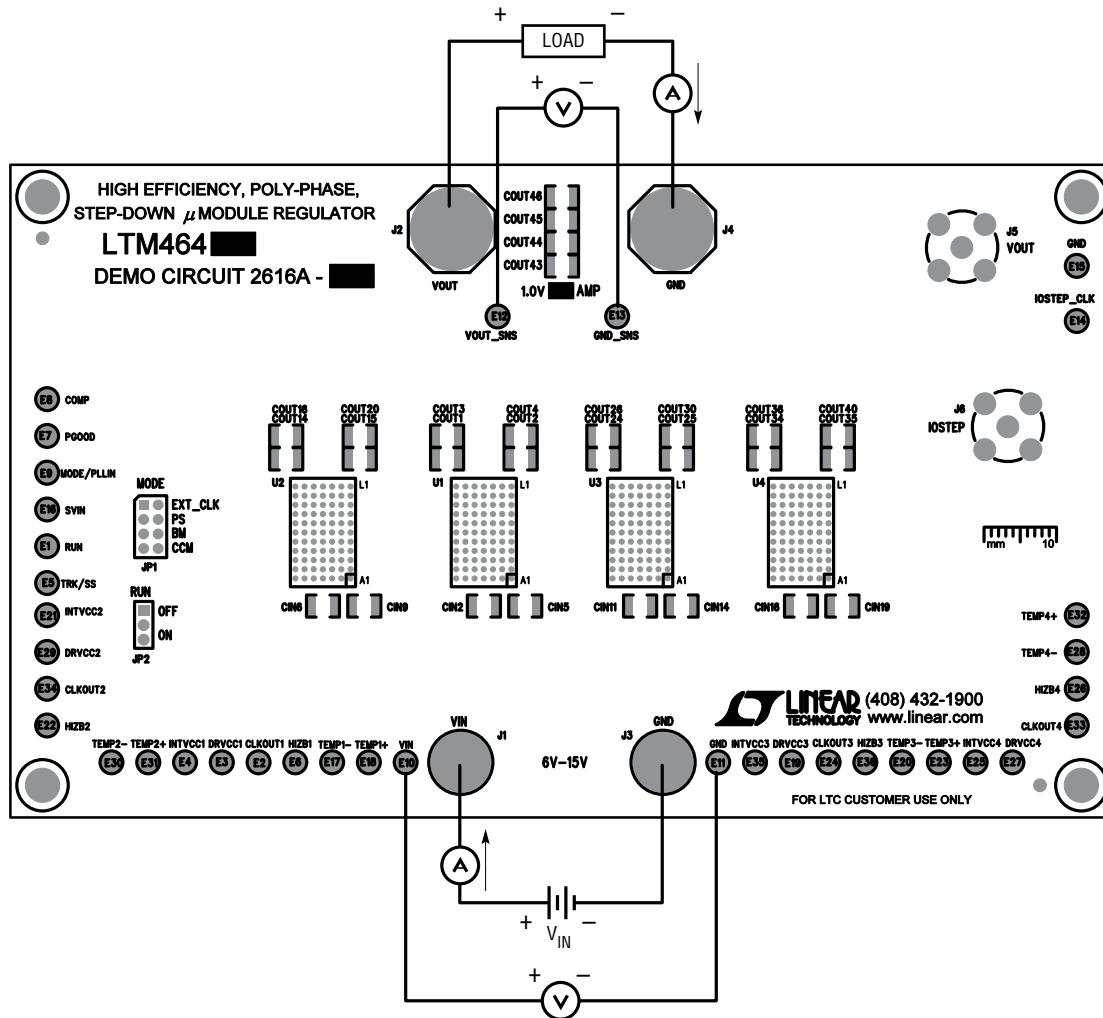

Figure 1. Measurement Setup of DC2616A-B
Demonstration circuit DC2616A-B is an easy way to evaluate the performance of polyphase operation of the LTM4645EY. Due to the high input/output current, the user should select the proper input supply/load/cable which can sustain the full load operation. Please refer to Figure 1 for proper measurement equipment setup and follow the procedure below:
2. With power off, connect the input power supply, load and meters as shown in Figure 1. Preset the load to 0A and  $V_{IN}$  supply to 12V.